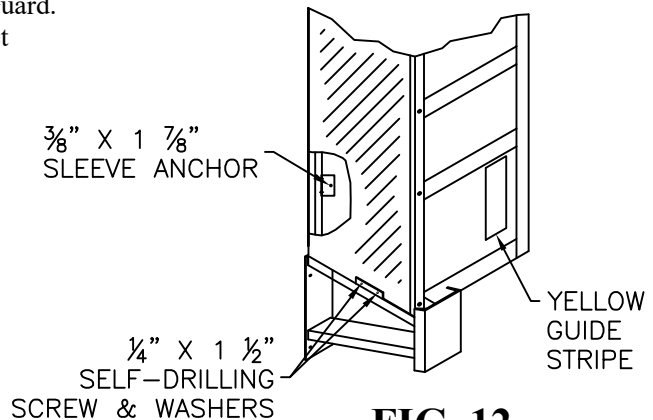

FIG. 12
- If using Steel Protective Guard (Figure 12):